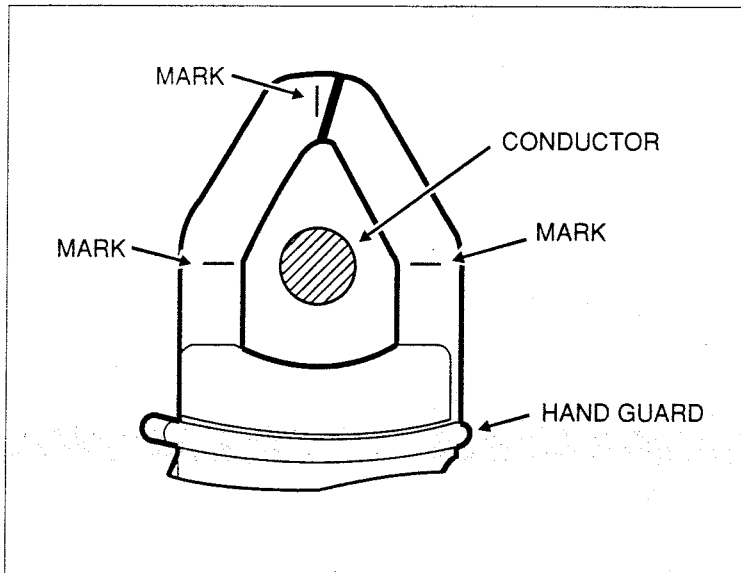

Figure 1. Current Clamp Alignment Marks
To meet the meter accuracy specifications, position the conductor within the jaws at the intersection of the indicated marks (Figure 1). If the conductor is positioned elsewhere within the jaws, the maximum additional error introduced is 1.5 percent.
**TYPICAL METER APPLICATIONS ARE NEAR EXPOSED LETHAL VOLTAGES. USE CAUTION WHEN TAKING MEASUREMENTS. BEFORE THE METER IS CONNECTED TO ANY CIRCUIT, REVIEW THE SAFETY INFORMATION. ALWAYS KEEP HANDS BEHIND THE METER HAND GUARD (SEE FIGURE 1).**